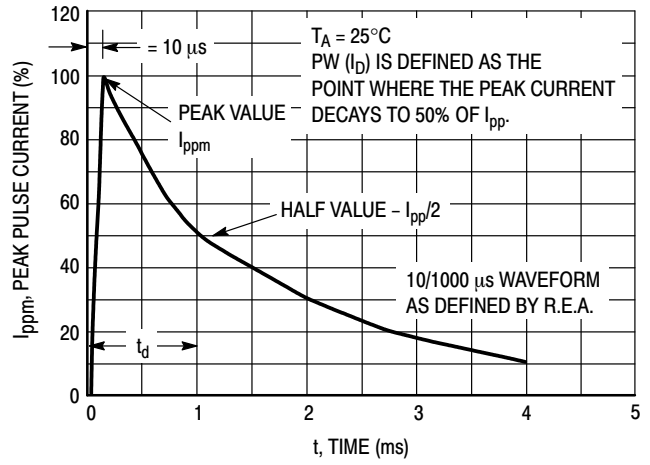

Figure 2. Pulse Waveform
6. Surge current waveform per Figure 2 and derate per Figure 3